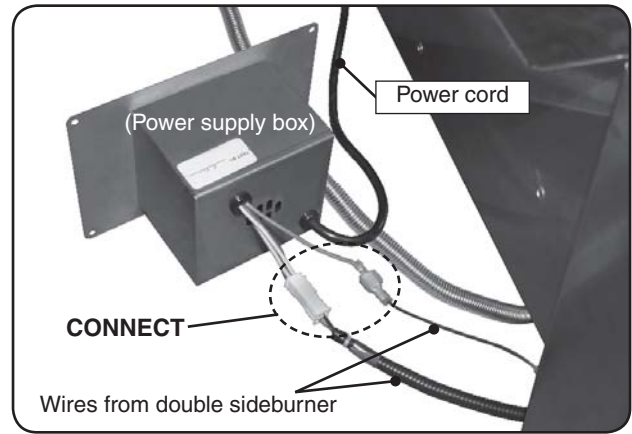

Fig. 14-1 Power supply box connections
- Connect the power supply box to the double sideburner, as shown in Fig. 14-1 (molex and ground wire connections).